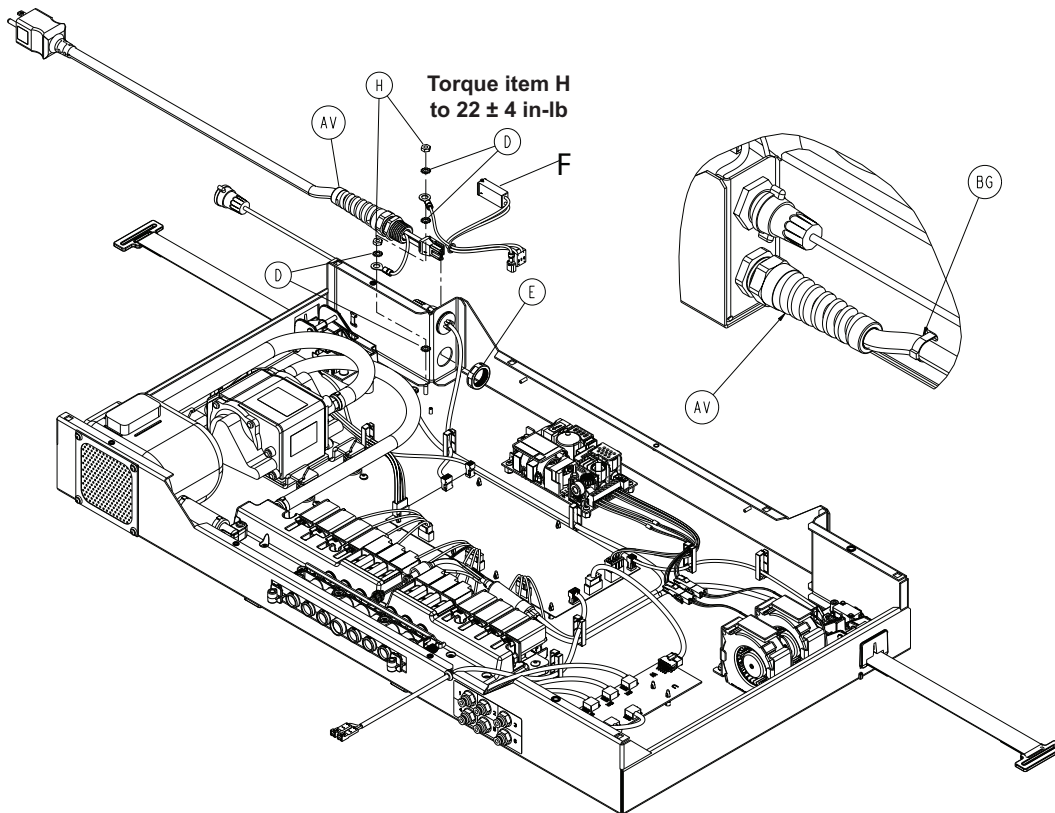

Figure 15 – Power cord
2. Using diagonal pliers, cut the cable tie (BG) and discard (Figure 15).